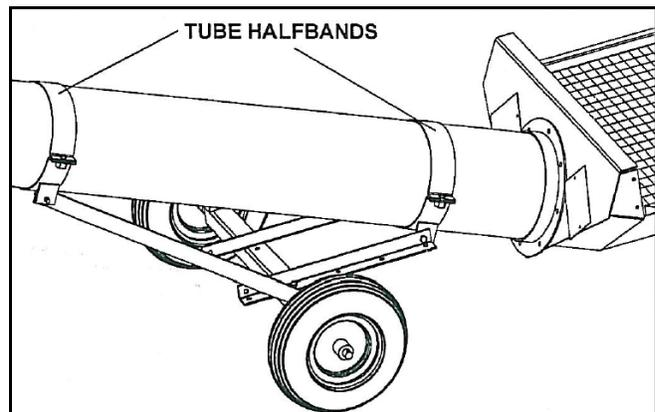

Figure 3.6
5. Now place the hopper tube in the halfband brackets and secure with 2 halfbands and four 7/16" x 1" bolts and locknuts, but do not tighten (see Figure 3.6).